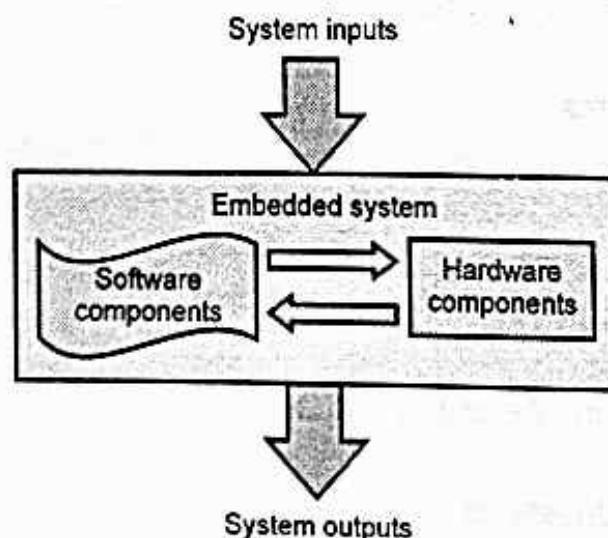

Fig. 1.1.1 : General view of embedded system
- Fig. 1.1.1 shows general view of embedded system.